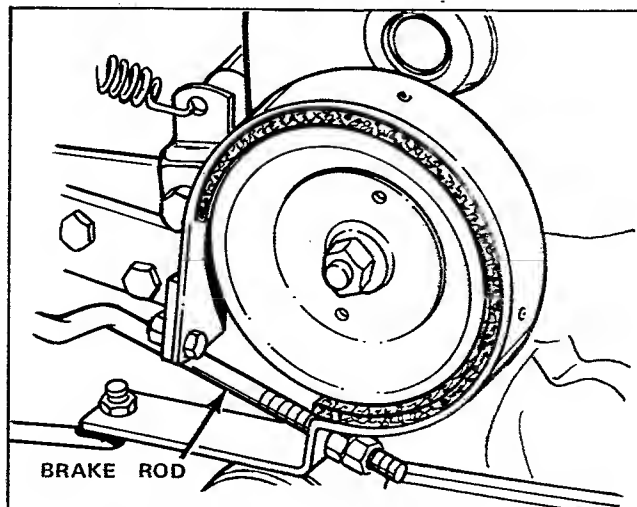

Figure 25. Brake Rod Adjustment
4. Turn the adjusting nut on the brake rod (figure 25) finger tight against the brake band. Hold the adjusting nut in that position while tightening the locking nut firmly to it.